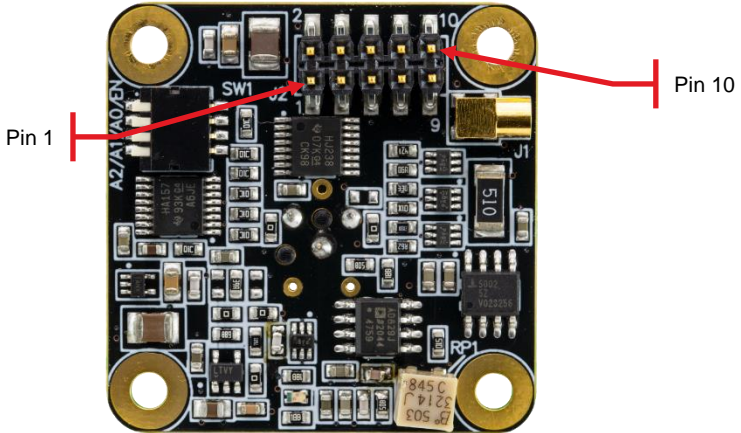

Figure 1 J2 Header
- The pin out table for the on-board header (J2), Figure 1, is shown in the two tables below:
- 3. Digital gain can be adjusted through the J2 header shown in Figure 1 or using the on-board DIP switch shown below. Each switch is 'Off'/0 when in the up position and 'On'/1 when in the down position.